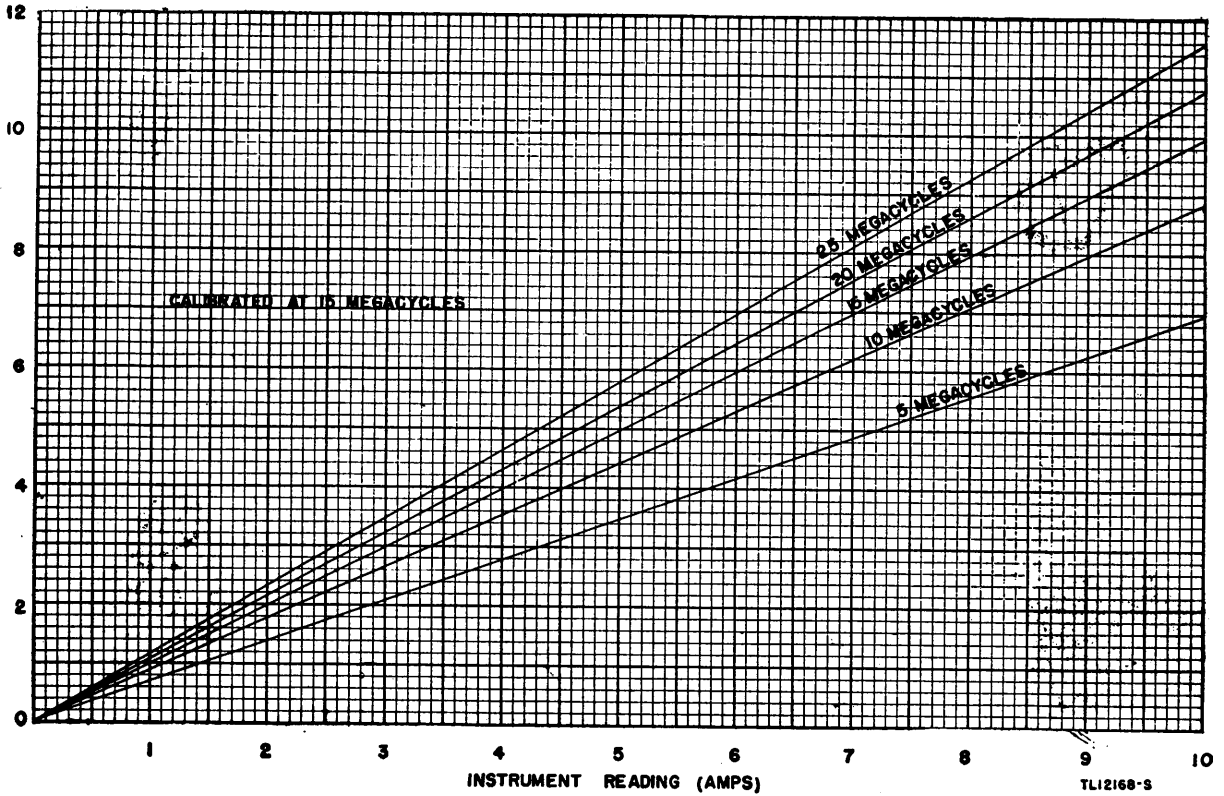

Figure 78. R-f ammeter correction curve.
c. Adjust the ANTENNA COUPLING and ANTENNA TUNING in order to give the optimum loading. The grid coupling should be set to a point that will give recommended grid current to the p-a tubes when full voltage is applied and the antenna has been coupled for optimum loading. Antenna loading will produce a rise in plate current and a drop in grid current. The grid coupling adjustment provides a means of compensating this effect. Always retune the first amplifier plate circuit to resonance after a change in the grid coupling adjustments. For actual values of antenna current the antenna meter readings should be corrected using the curves given in figure 78.